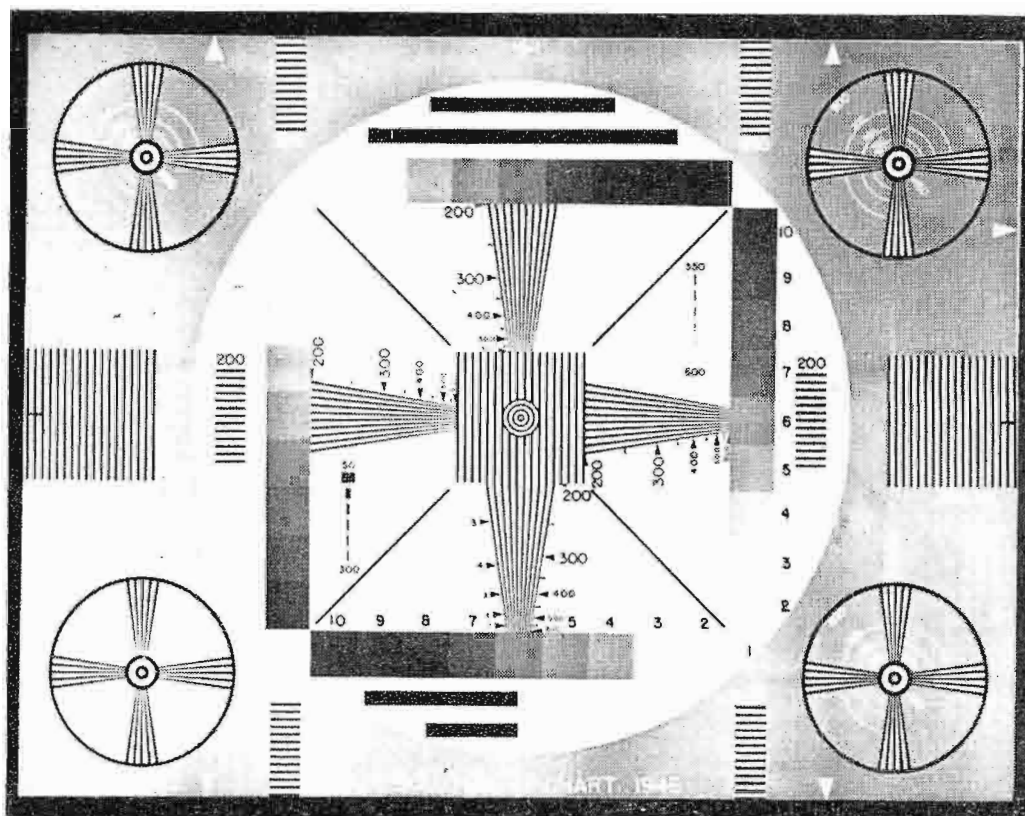

FIG. 11. RETMA resolution chart available as a 2 by 2 slide and used to expedite adjustment procedures.
8. Use a resolution chart test slide (Fig. 11) in slide projector and open projector iris to maximum opening. Verify image focus position within field lens, using a white card placed alternately before and behind field lens position as in Fig. 5; next, check the optical focus of each vidicon camera as seen on display monitor pattern; then stop the iris down by two stops.